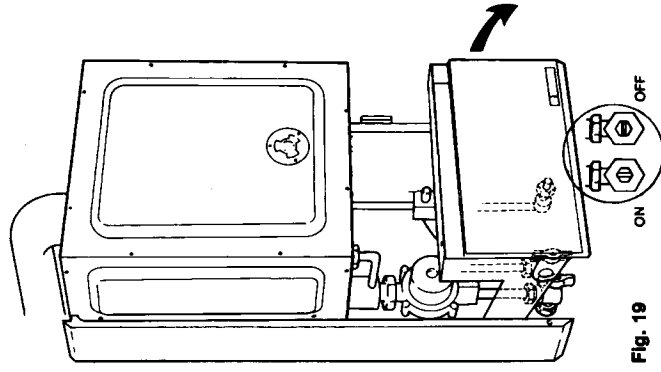

Fig. 19
- 5.7.1** To gain access to the electrical terminals hinge down the spring loaded control fascia. (ref to fig. 19) until it rests in an approximately horizontal position.